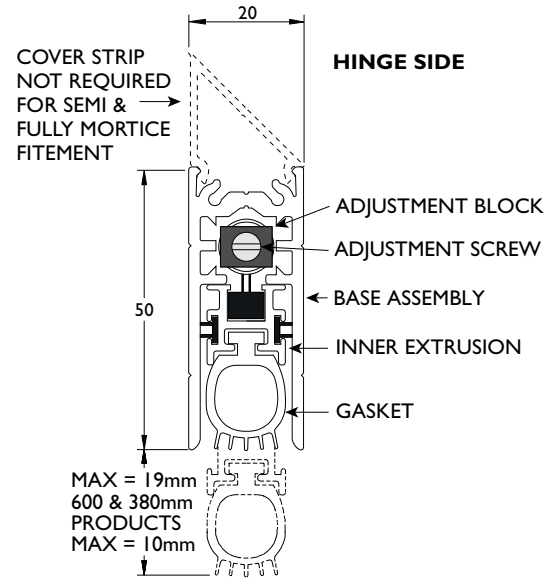

FIG. 3
STEP 6 Position base assembly on door bottom with **adjustment block** on **hinge side** of door. **(FIG.2 & FIG.3)**
STEP 8 Position the hinge side escutcheon plate on the base assembly and screw fix, using the **shortest** screws supplied. **(FIG.2 & FIG.3)** Re-hang door. **Note:** Do not use a powered driver.